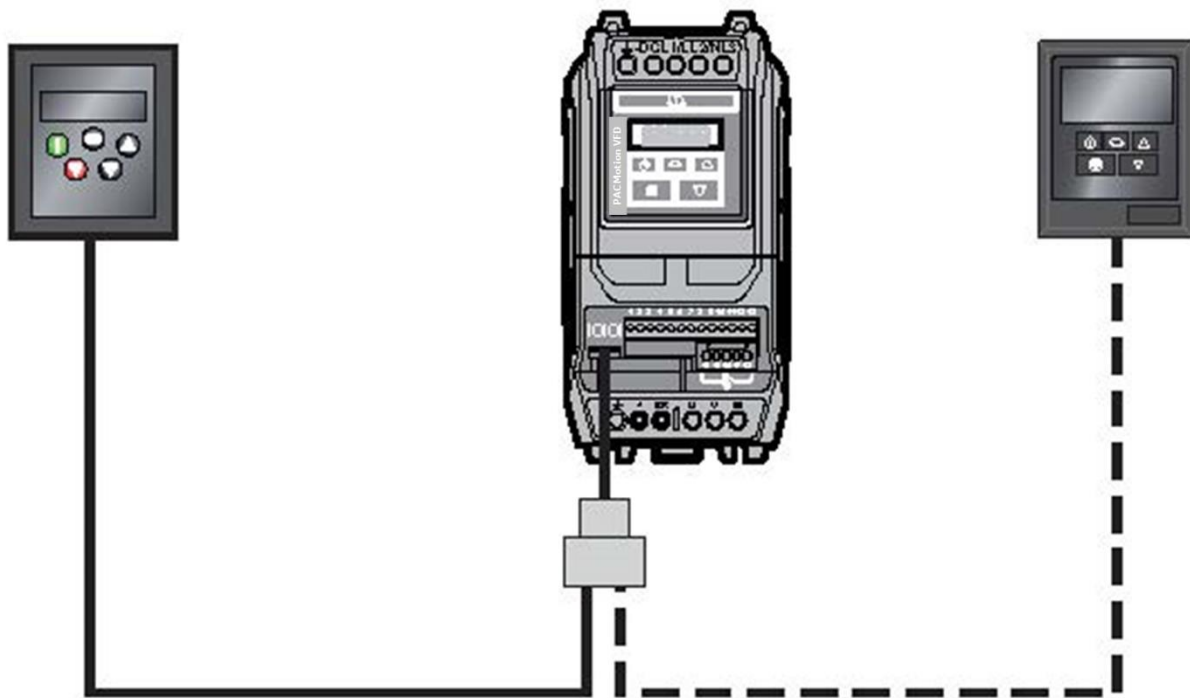

Figure 86: One PACMotion Drive Connected to Two Remote Keypads
- One PACMotion VFD with one (or a maximum of two) remote keypads (Figure 86).